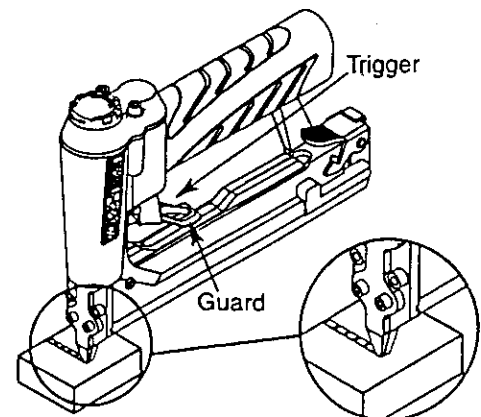

Figure 3 - Pinning Operation
Refer to Figures 3 & 5 (pages 3 and 6).
- Hold body firmly and position nose (Key No. 32) above workpiece where fastener is to be applied. Pull trigger (Key No. 23) to drive fastener into workpiece (see Figure 3).
- Tool is provided with a safety guard (see Figure 3) to prevent accidental discharge. Tool will fire only if trigger is pulled. Pulling the guard (Key No. 24) will NOT discharge fasteners.